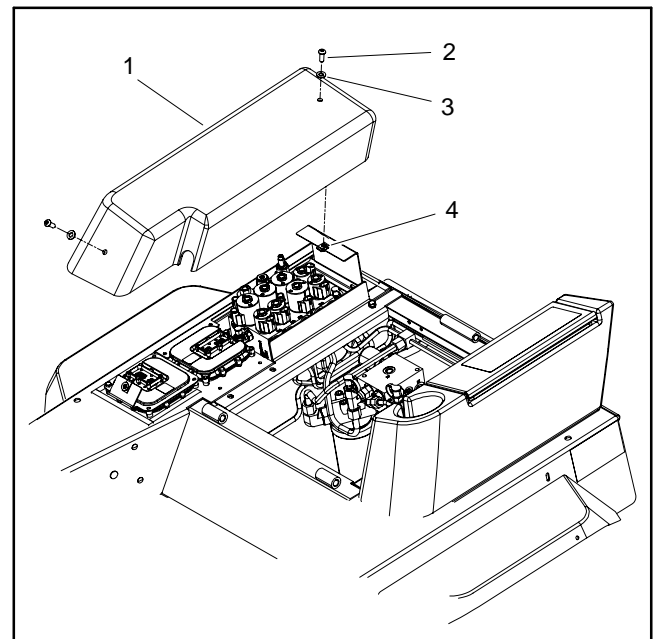

Figure 110
2. Remove controller cover and then support bracket from the right side of the operator seat (Fig. 110).
5. Install support bracket and controller cover to the right side of the operator seat (Fig. 110).